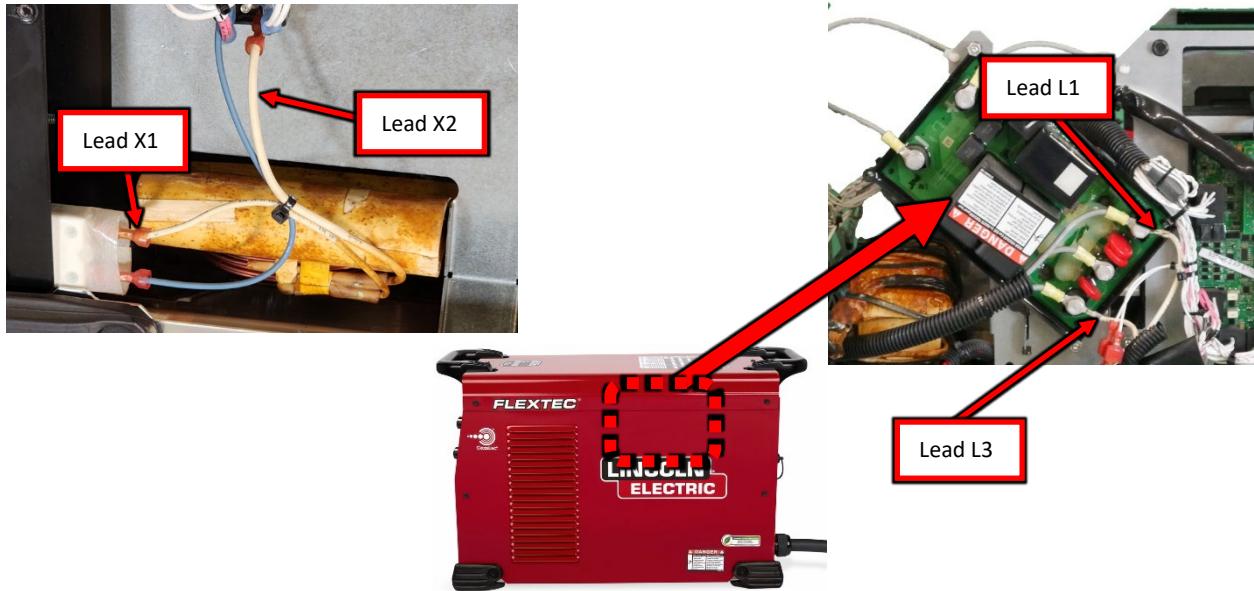

Figure F.3
B.2. Perform the measurements in Test Table 2 below, refer to Figure F.3 for test point locations.